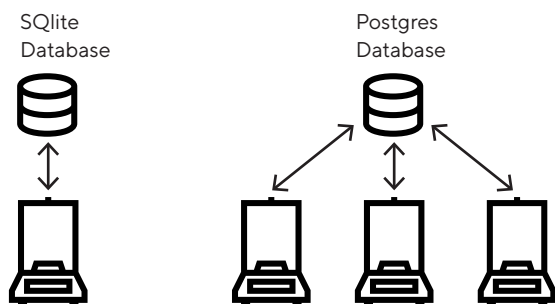

Figure 11: Scheme to illustrate the differences between SQLite and PostgreSQL database infrastructure
1. Install and start Final Pharma Filling or Mycap® CCX cell passaging task (see balance user manual). Select if the task uses SQLite or PostgreSQL as database. SQLite is a balance internal database. Mycap® CCX experiments saved to the SQLite database are locally available only at the specific balance whilst using PostgreSQL saved experiments are shared amongst balances (see Figure 11). PostgreSQL is ideal if working with multiple balances. The PostgreSQL database relies on an external, server based database. The infrastructure has to be made available by the customer and the server settings to be filled in during